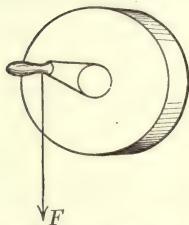

FIG. 42. — Crank on grindstone.
8. How would you calculate the moment of the force F as applied to the grindstone in figure 42?